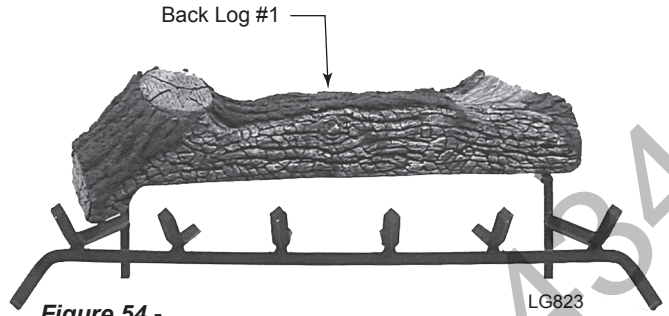

Figure 54 - Place Rear Log #1 on Back Grate
1. Place Rear Log #1 on back of grate. Left side should fit on grate in front of rear stand. Right side goes on the rear stand of grate. *Figure 54*